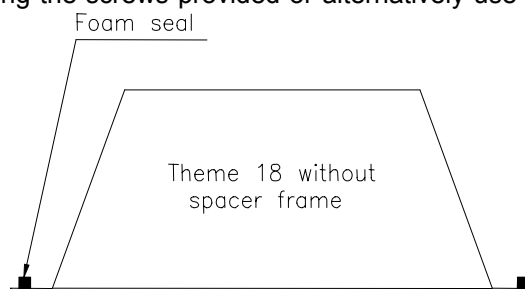

Fig.5 Attaching foam seal
3. Secure the self-adhesive foam-sealing strip to the back of the convection box flange (Fig. 5).